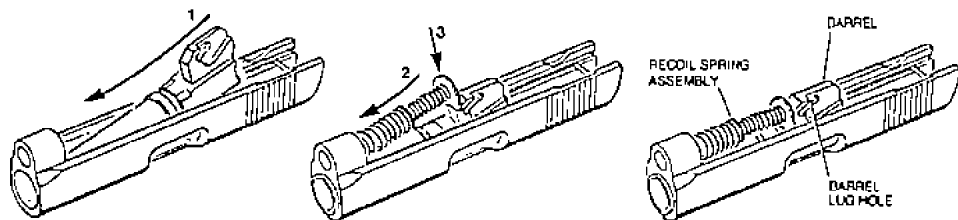

FIGURE 12—ASSEMBLING BARREL AND RECOIL SPRING
1. First assemble the washer and springs onto the recoil spring guide; See Figure 12.